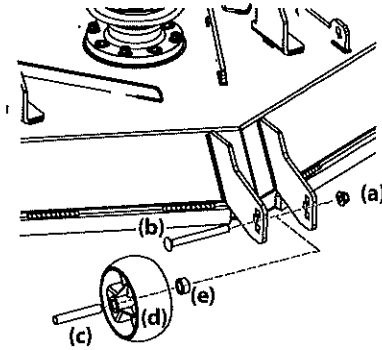

Figure 15
- Remove the lock nut (a) securing one of the front gauge wheels to the deck. Remove the shoulder screw (b), tube spacer (c) and shoulder spacer (e) to remove the wheel (d). See Figure 15.